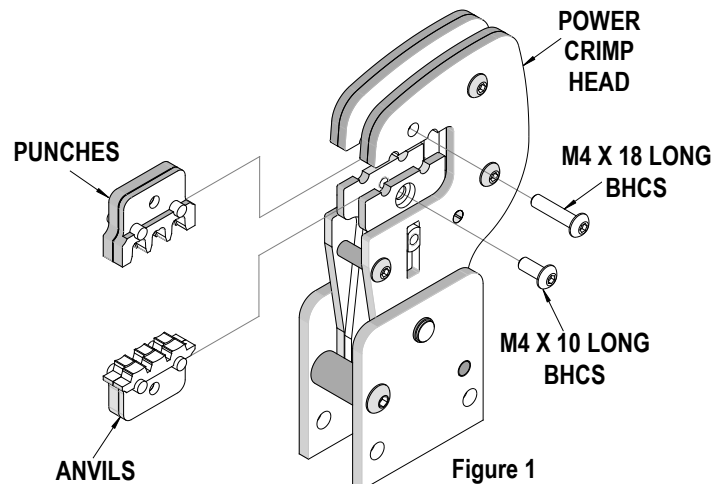

Figure 1
2. Insert the Punches into the top slots of the nest. Install the M4 x 18 long BHCS and tighten in place. See Figure 1.
4. Press down on the wire stop on the locator as shown in Figure 1. Insert the terminal into the proper nest opening. Make sure when choosing the nest opening, it will correspond with the A, B or C profile on the hand tool.